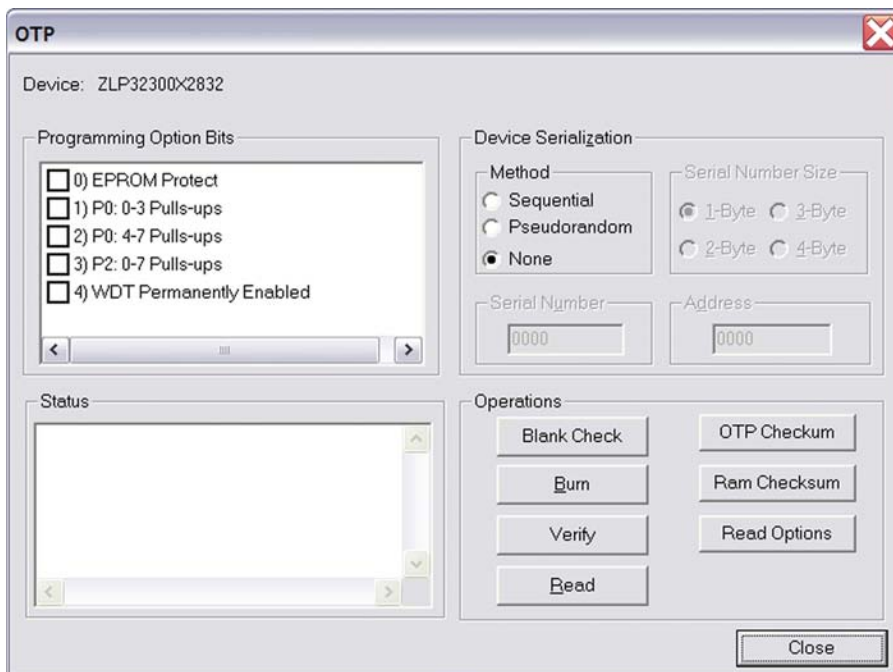

Figure 12. OTP Programming Window (Current ZDS II Project Example)
6. Select Tools --> OTP Programming to open the OTP window (Figure 12).